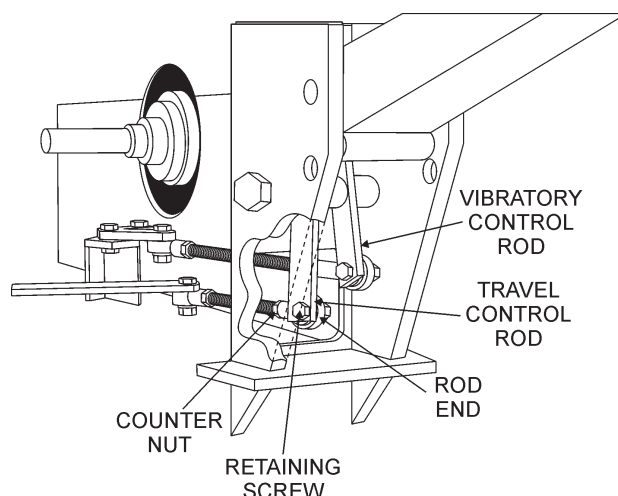

Figure 35. Travel and Vibratory V-Belts
2. On the travel control rod, loosen the counter nut on the **rod end**. Remove retaining screw as shown in Figure 35, then rotate the rod end to acquire desired length. Adjust travel rod so that its static position (no force applied on drive control) falls into the neutral position. The roller should not move once adjustment is complete. Retighten all hardware.